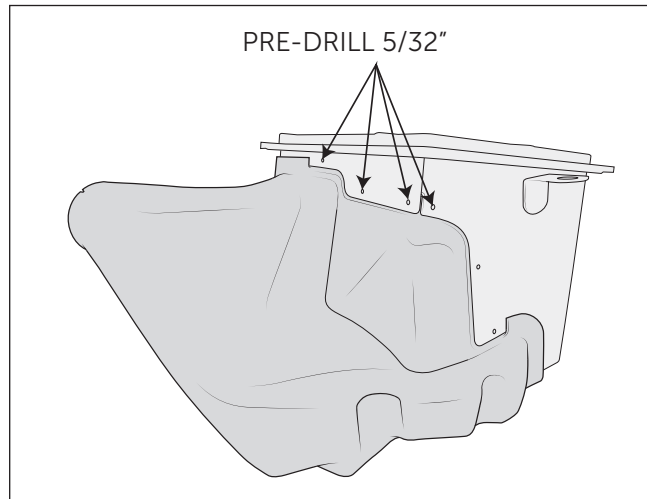

Figure 11
5. Fit the lower air box and plastic airbox connection together and pre-drill the four holes shown (fig. 11)
- A. The metal airbox should seat into the plastic airbox connection part installed in the previous step (see figs. 11 & 15).